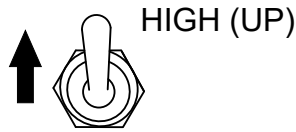

Figure 51. Engine Speed Switch (High Position)
4. After the warmup process has completed, place the **Engine Speed switch** (Figure 51) in the **HIGH** (up) position. The engine speed will increase to 1,800 rpm and the unit is now ready for operation.